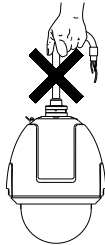

Figure 2-1 Do Not Drag the Cables
**Note:** Do not drag the speed dome with its waterproof cables as shown in Figure 2-1, otherwise the waterproof performance is affected.